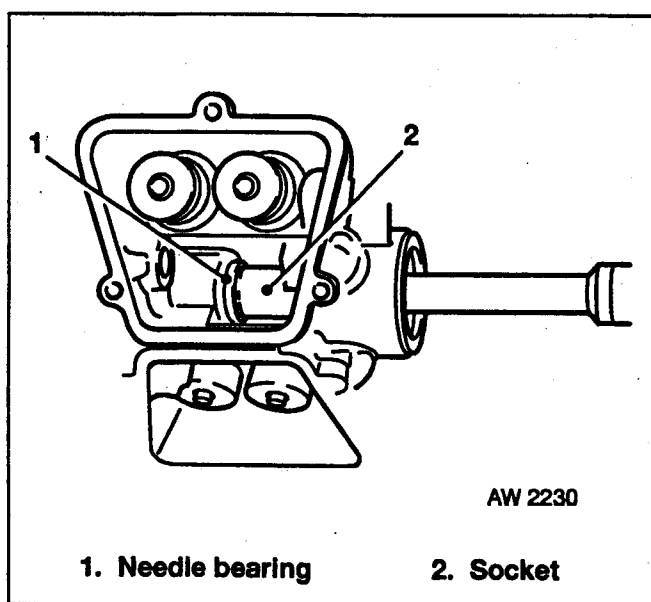

Fig 2.18 Camshaft Needle Bearing Installation
- b. Refit camshaft needle roller bearing, Fig 2.18 refers, using an appropriate sized socket, to fit the bearing to a cylinder head warmed to 60–80°C, until the bearing seats against the bearing stoppers. Do **NOT** press on the bottom of the bearing case, only on the shoulder.